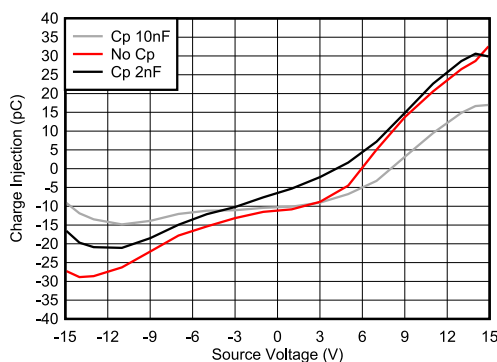

图 7-3. Charge Injection Compensation
The TMUX6219-Q1 contains specialized architecture to reduce charge injection on the source (Sx). To further reduce charge injection in a sensitive application, a compensation capacitor (Cp) can be added on the drain (D). This will ensure that excess charge from the switch transition will be pushed into the compensation capacitor on the drain (D) instead of the source (Sx). As a general rule, Cp should be 20× larger than the equivalent load capacitance on the source (Sx). 图 7-3 shows charge injection variation with source voltage with different compensation capacitors on the Drain side.